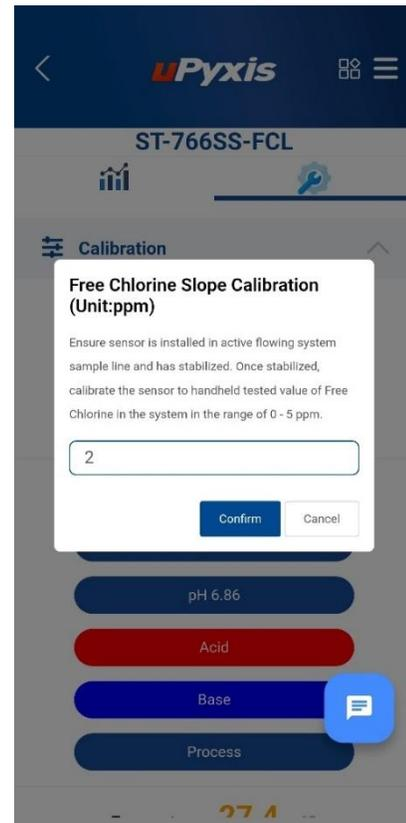

Figure 20
**Once the oxidizer concentration has been determined**, open the **uPyxis App** and connect to the corresponding **ST-766SS** sensor. Navigate to the **Calibration** section, tap **SLOPE**, and enter the measured concentration value in the dialog window as shown in Figure 20. Ensure the sensor reading has been stable for at least **10 minutes** before performing the calibration.
Once the oxidizer concentration has been determined, open the **uPyxis App** and connect to the corresponding **ST-766SS** sensor. Navigate to the **Calibration** section, tap **SLOPE**, and enter the measured concentration value in the dialog window as shown in Figure 20. Ensure the sensor reading has been stable for at least **10 minutes** before performing the calibration.